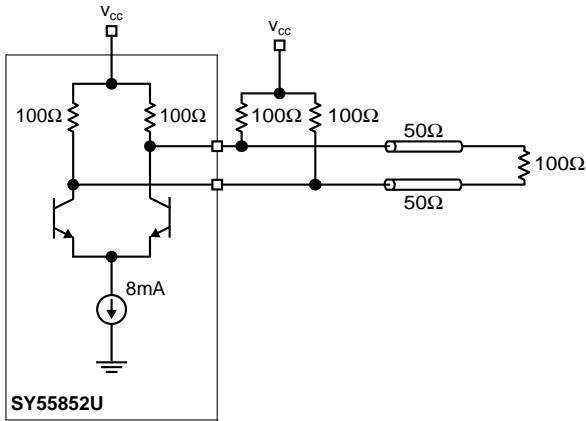

Figure 3a. Differentially Terminated (50Ω Load CML Output)
**Note 4.** See Figure 3a and 3b.